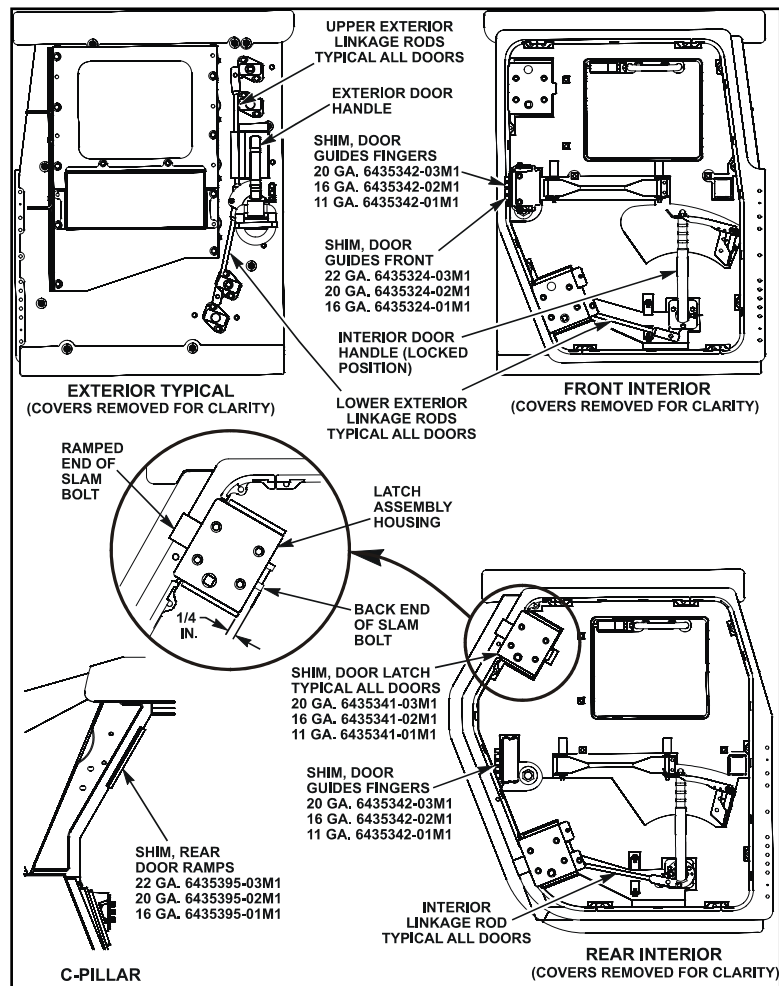

Figure 41
- FF. Baseline adjust exterior linkage rods as follows. Refer to figure 41.
GG. Baseline adjust interior linkage rod. Refer to figure 41 (pg 45)..
HH. Adjust ramped end of latch bolt assembly as follows. Refer to figure 41 (pg 45):
II. Inspect door latching mechanism as follows. Refer to figure 41 (pg 45).
- c. If latch is not fully engaging the latch ramp, loosen two outside bolts and remove the two inside bolts from the latch assembly and shim as required. Refer to figure 41 for shimming locations and shim sizes. Once required shim(s) have been added re-install two inside bolts and tighten four bolts to 7 lb-ft (9 N·m).
5. Make any other adjustments to vehicle doors by using shims from 6435695-01M1 and 6435696-01M1 shim kits and adjust linkage rods as required. Refer to figure 41 for possible adjustment locations.